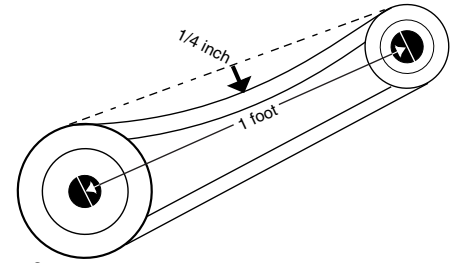

Figure 3
- Adjust the motor plate until proper tension is reached. For proper tension, a deflection of approximately 1/4" per foot of center distance should be obtained by firmly pressing the belt. Refer to Figure 3.